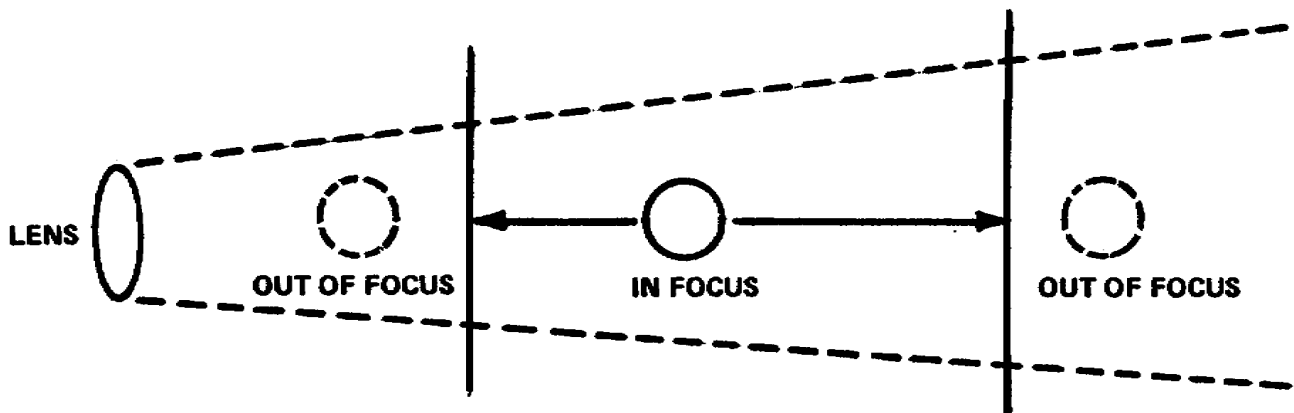

Figure 2-3. Depth of field
- (1) The focal length of the lens.
- (2) The aperture.
- (3) The distance of the object from the camera (fig 2-3).